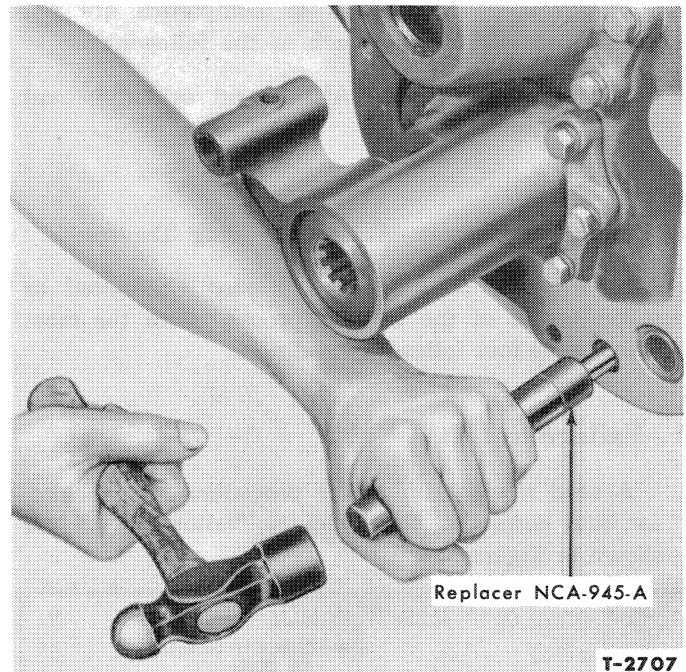

Figure 37—Removing Pressure Tube
2. Install Replacer NCA-945A in the pressure tube at the rear of the transmission, as shown in Figure 37 and drive the tube out of the transmission.